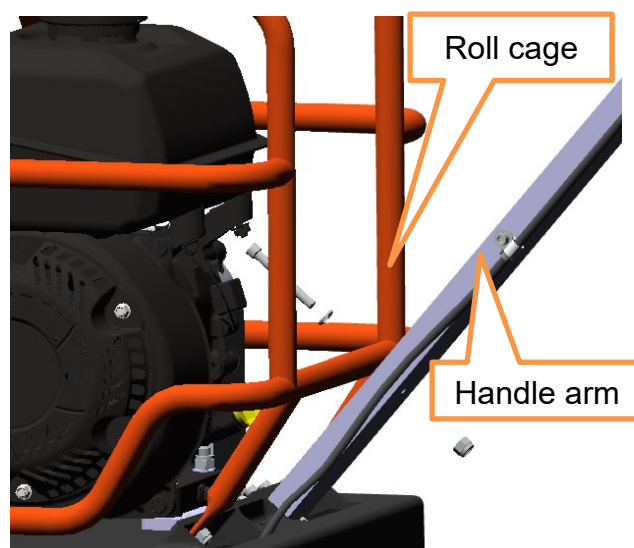

Figure 4:
3. Unscrew the nut and remove the bolt holding the handle arm to the roll cage (figure 4).